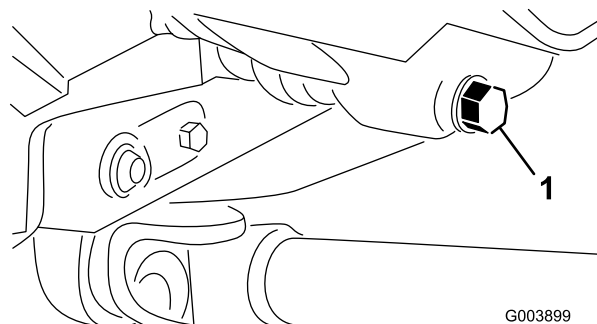

Figure 52
1. Remove the drain plug (Figure 52) and let the oil flow into a drain pan.